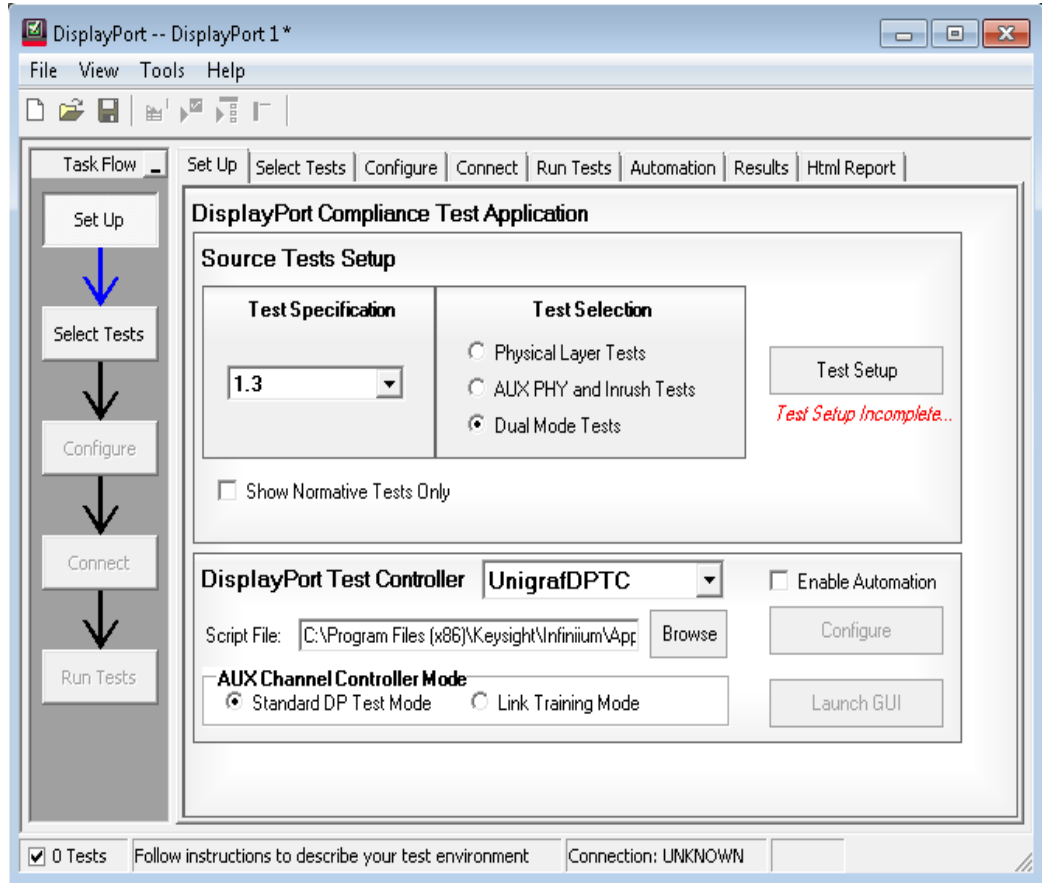

Figure 93 Set Up tab on the DisplayPort Compliance Test App
- 3 On the DisplayPort Compliance Test Application, click the **Set Up** tab (see Figure 93).